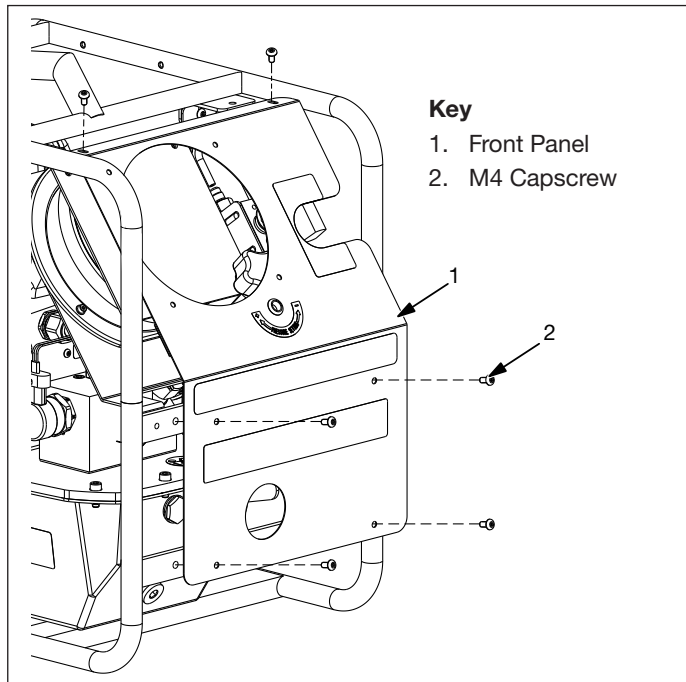

Figure 9, Front Access Panel
4. Remove the six M4 capscrews securing the front panel to the roll cage. Remove the front panel to provide access. Refer to Figure 9.